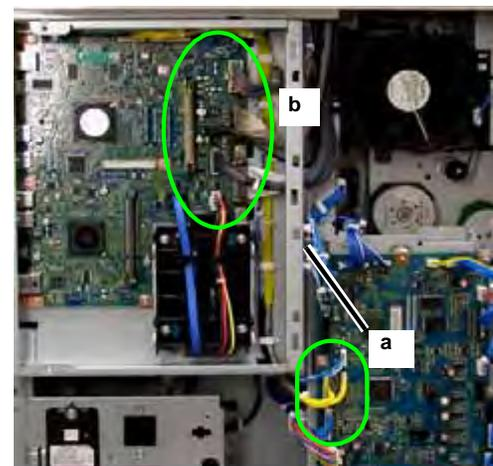

Figure 2 PWB PJ's
3. Perform the following (Figure 2).
- a. Disconnect the MCU PWB connectors (3), and release the wires from the clamps on the ESS PWB panel.
- b. Disconnect the ESS PWB connectors (5) and wire clamp (1). Then route the connectors and wire harness through the PWB panel openings.